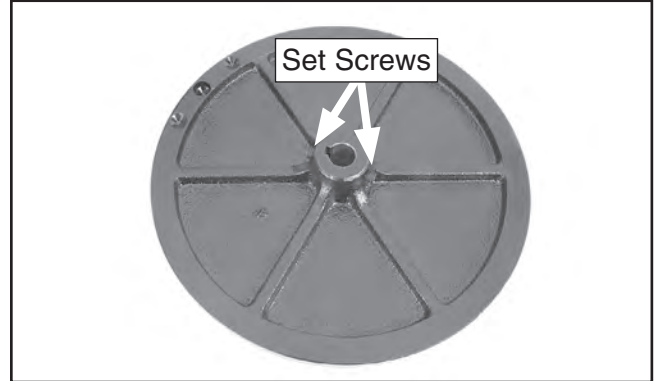

Figure 26. Set screw locations on sanding disc plate.
- Use the 4mm hex wrench to back the shaft set screws on the cast iron plate out of the shaft hole and keyway (**Figure 26**).